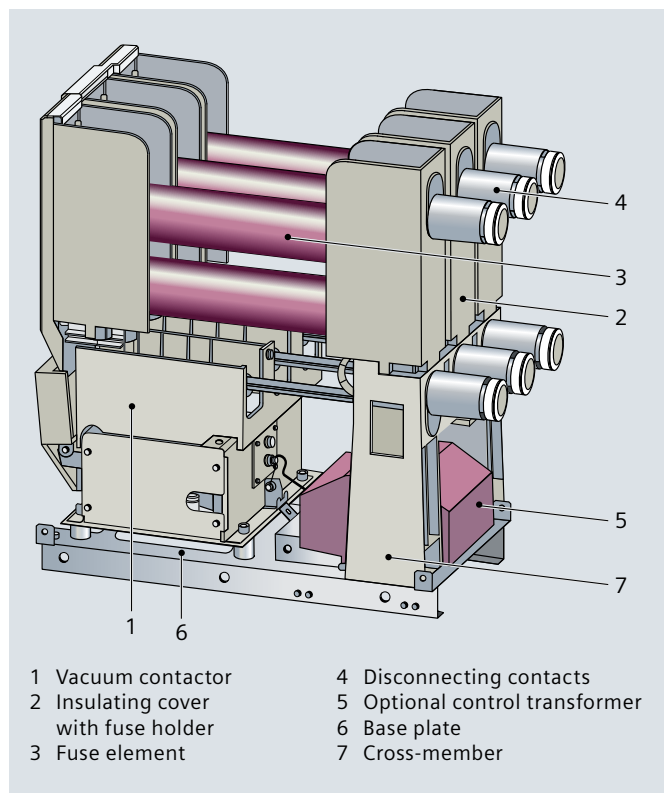
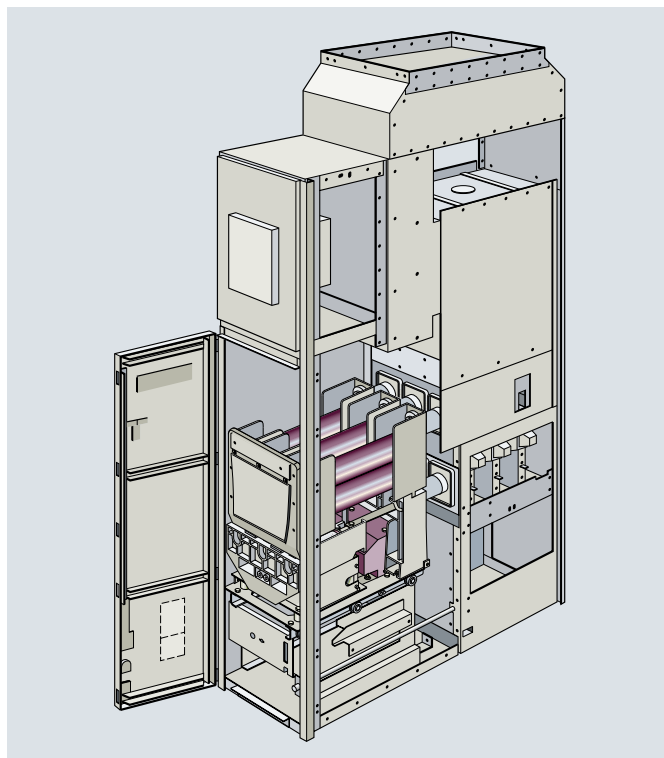

Fig. 4.3-14: Construction of the contactor-fuse combination 3TL6
Fig. 4.3-15: Installation of the contactor-fuse combination in the contactor panel
The contactor-fuse combination (fig. 4.3-14, fig. 4.3-15) consists of the components vacuum contactor (1), insulating cover with fuse holder (2), fuse-links (3), contacts (4) and optionally a control transformer (5). These are accommodated on a base plate (6).